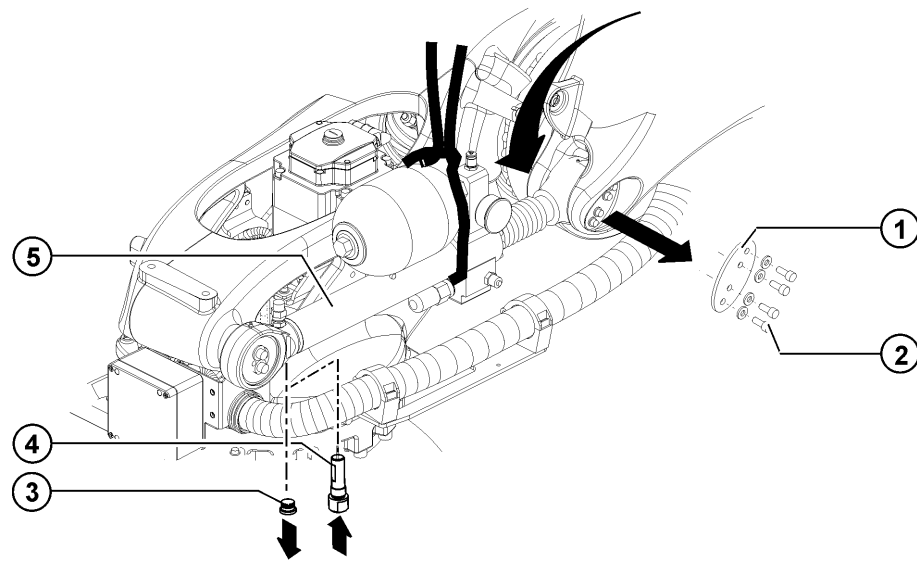

Fig. 11-19: Removing the counterbalancing system: locking pin
1. Remove the screw plugs (>>> Fig. 11-19).